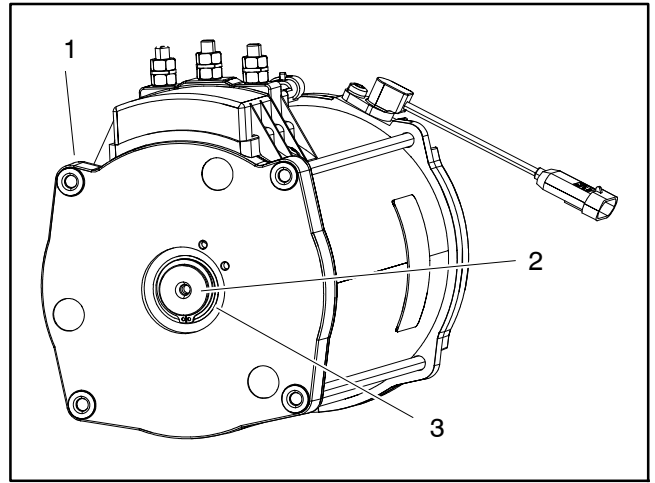
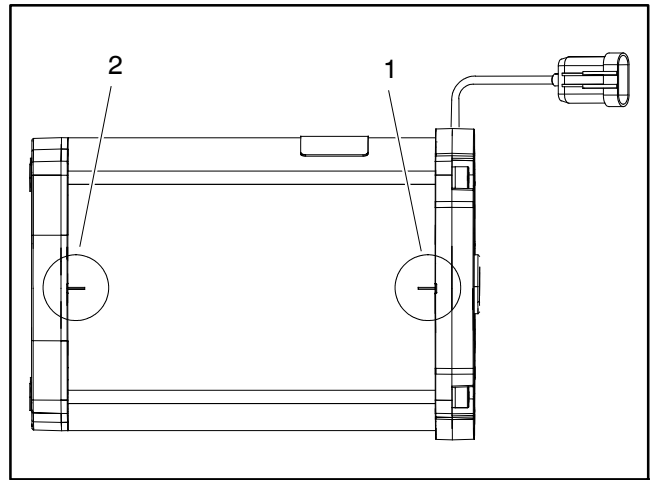
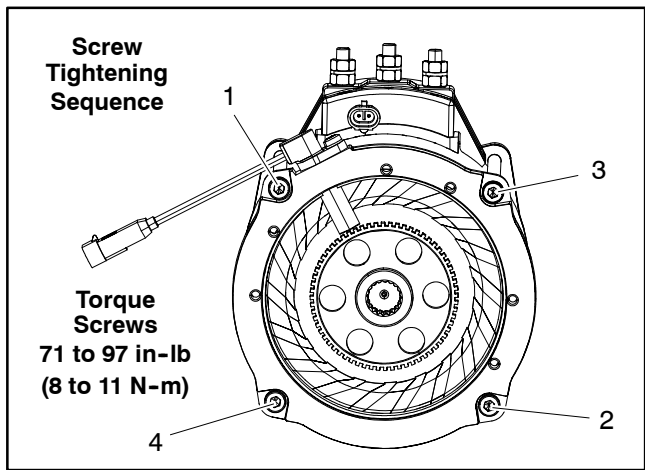

Figure 59
Figure 60
Figure 62
2. Remove the retaining ring and wave washer that secure the armature assembly in the rear end bracket bearing (Fig. 59).
4. Remove connection plate assembly (item 12) from stator:
- A. Remove three (3) lower jam nuts from stator terminal screws.
- B. Remove two (2) torx screws that secure connection plate assembly to stator.
5. For assembly purposes, note locations of drainage slots in drive and rear end brackets and the aligning position slots in the stator assembly (Fig. 60).
6. Remove four (4) socket head screws and lock washers that secure drive and rear end brackets to stator assembly. Remove end brackets from stator.
3. Position drive and rear end brackets to stator assembly using notes made during disassembly to properly align drainage slots in brackets and stator (Fig. 60).
4. Secure drive and rear end brackets to stator assembly with four (4) socket head screws and lock washers. Tighten screws in two (2) stages using the sequence shown in Figure 62. Final torque on screws should be from **71 to 97 in-lb (8 to 11 N-m)**.
5. Install connection plate assembly (item 12) to stator:
A. Place connection plate assembly onto stator so that three (3) terminal screws fit through plate.
B. Secure connection plate assembly to stator with two (2) torx screws. Torque screws from **25 to 33 in-lb (2.8 to 3.8 N-m)**.
C. Install three (3) lower jam nuts onto stator terminal screws. Torque nuts from **72 to 88 in-lb (8 to 9 N-m)**.
7. Install wave washer (item 5) and retaining ring (item 6) to secure the armature assembly in the rear end bracket bearing (Fig. 59). Make sure that retaining ring is fully seated into groove in armature shaft.